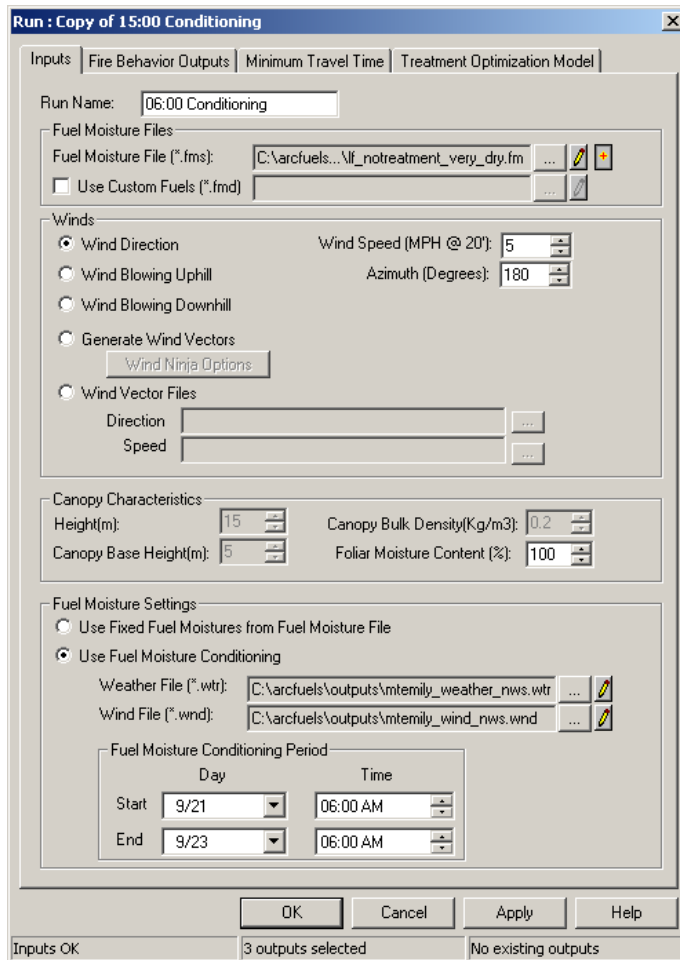

Figure 4-24—Inputs tab for the 06:00 fuel moisture conditioning run.
- 7) To better understand how the start and ending times affect fuel moisture, you are going to repeat the run for 06:00 AM. In FlamMap5 you can copy an existing run to use the prior settings as a starting point. You will be doing this for a run that will be named “06:00 Conditioning.” Right-click on the 15:00 Conditioning run, and select **Copy** from the menu. This will open a new **Run** form (fig. 4-24).